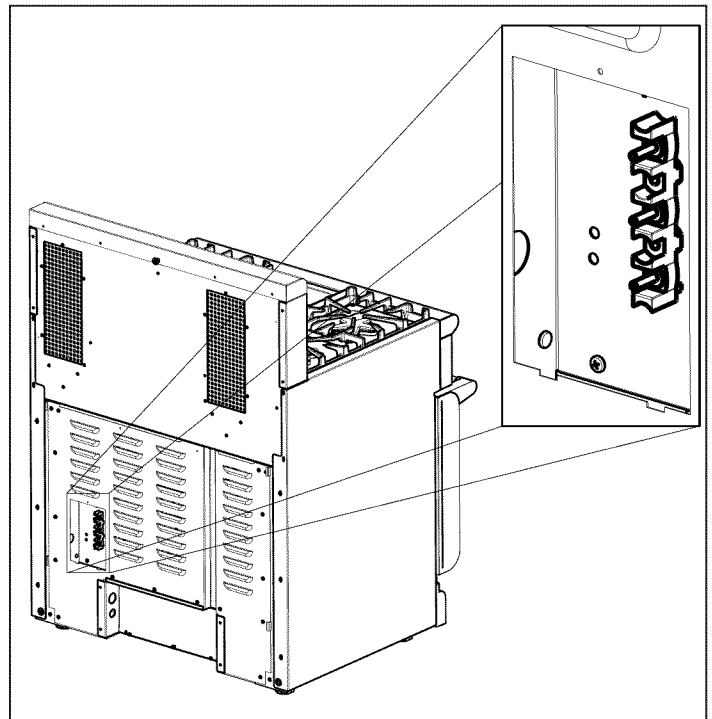
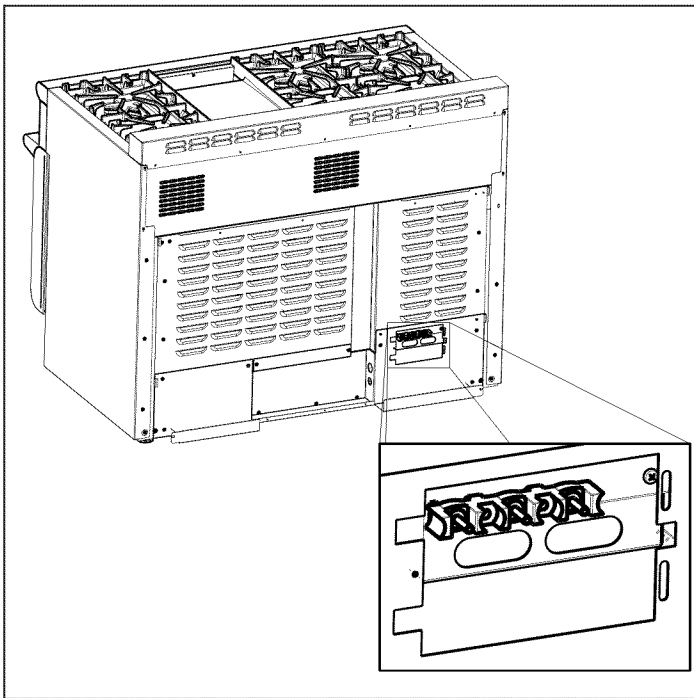
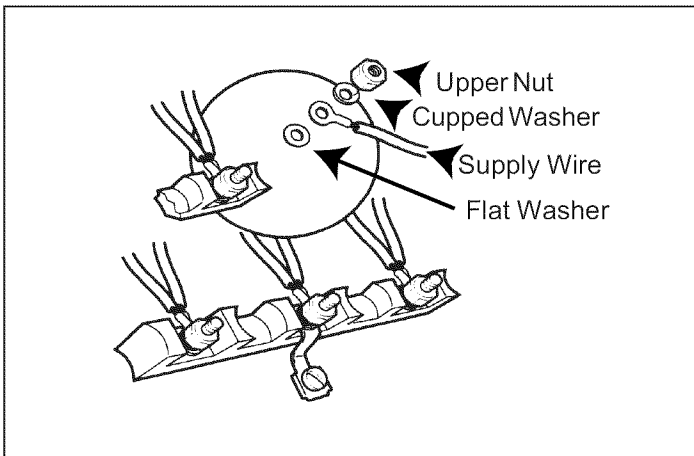

Figure 9a: Location of Junction Box on 30" and 36" Ranges
Figure 9b: Location of Junction Box on 48" Ranges
Figure 10: Conductor Securement
- **PERMANENT CONNECTION (HARD WIRING)** — Units may be hard wired to the power supply. The installer must provide approved flexible aluminum conduit, 3/4" trade size, maximum 6 feet long. Locate the junction box on the rear of the unit and remove cover. Refer to Figure 9a or Figure 9b, depending upon the range model. Remove the ground strap retaining screw and bend the ground strap up. Refer to Figure 10. The conduit must be installed to the junction box using an approved conduit connector.